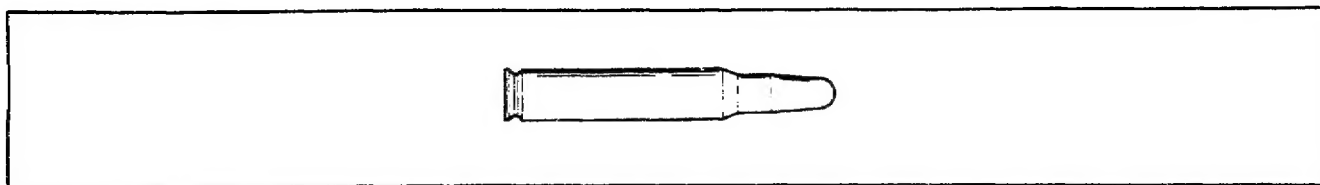

Figure 7. Practice Cartridge.
**Practice.** The 5.56mm practice cartridge (Figure 7) is made of plastic and has a blue bullet tip. It is used with the M16A1 rifle with a practice bolt for training in areas where range size precludes the use of full-range standard service ammunition.